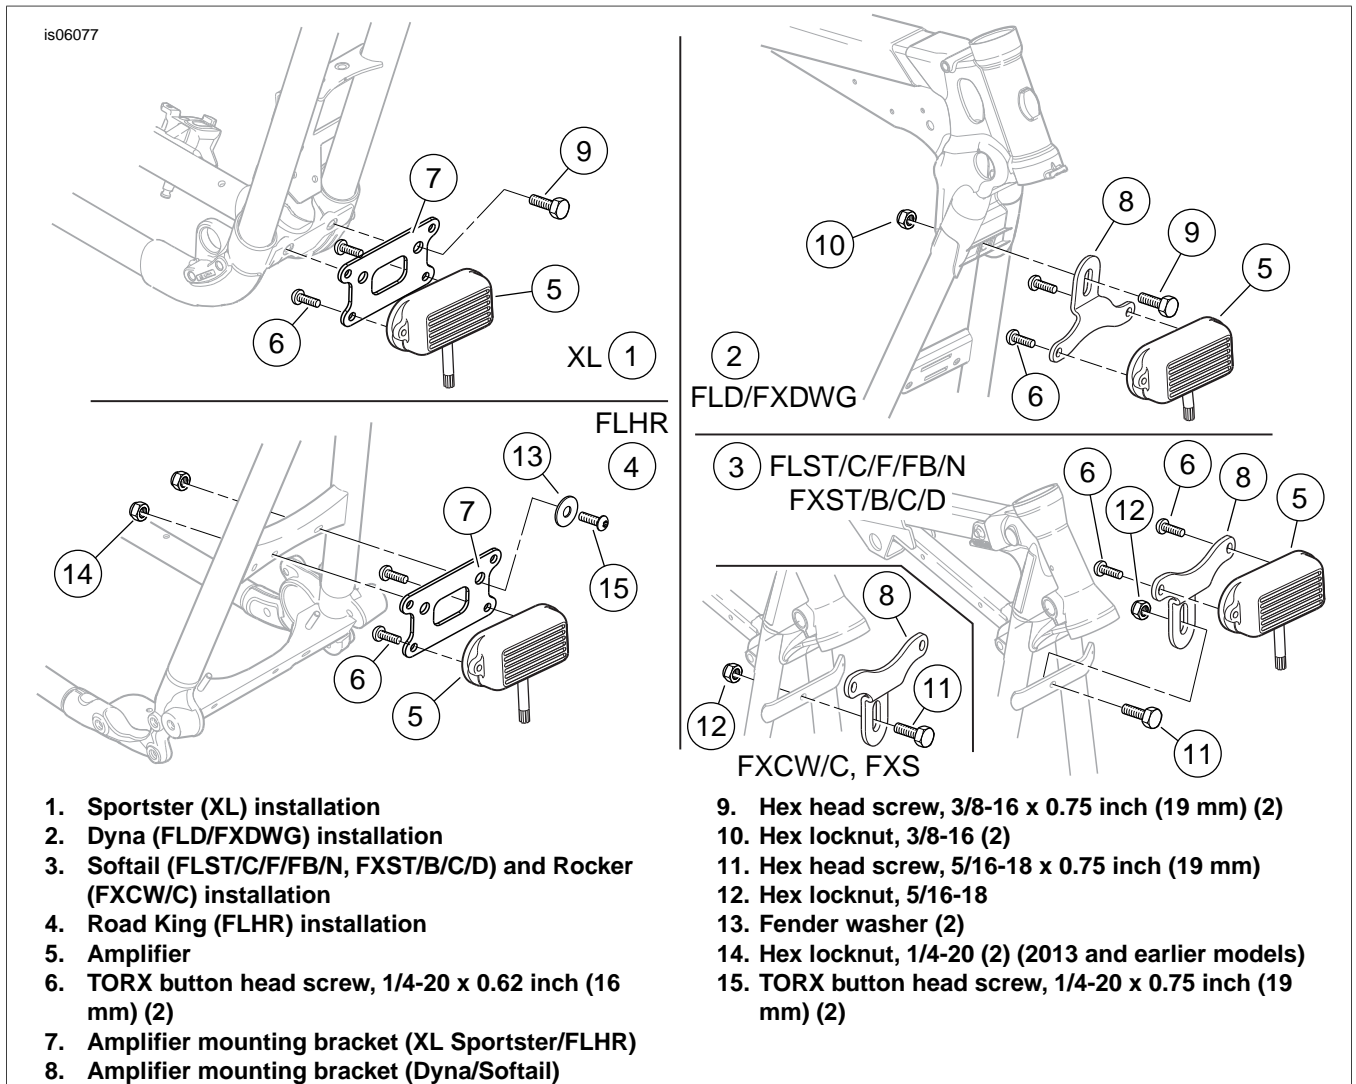

Figure 1. Amplifier and Bracket Installation
2. See Figure 1. Install the amplifier (5, part of the wire harness assembly) to the bracket with the screws (6), and tighten to 65 **in-lbs** (7.4 Nm).
4. See Figure 1. Install the amplifier and bracket to the frame crossmember between the front down tubes as shown.